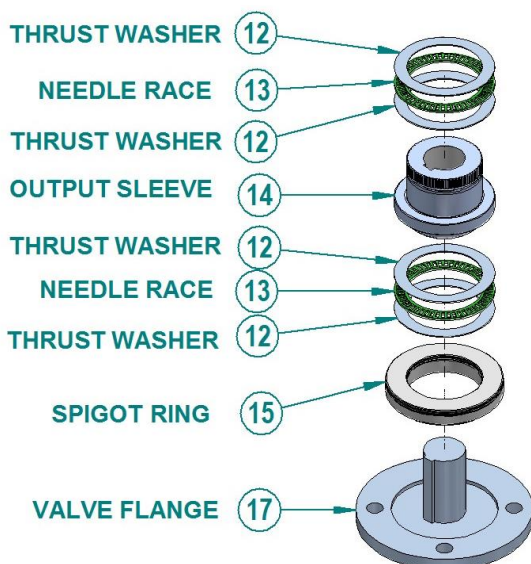
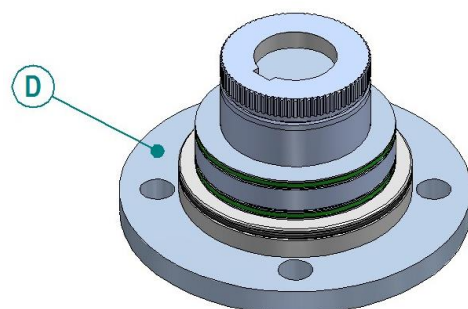

Figure 6 - Valve Stem Assembly
Figure 7 - Valve Stem (Assembled)
- It is recommended that the machined output sleeve assembly is assembled onto the valve stem first and then the gearbox lowered onto the output sleeve assembly. See Figure 6 and Figure 7 for assembly details.
- Fit the machined output sleeve (14), thrust bearings (12 & 13) and baseplate spigot ring (15) on the valve shaft as shown in the Figure 6. Bearings should be lubricated with the appropriate grease. Grease the output sleeve and valve stem. Note that the spigot ring has an internal and external seal that should also be greased.